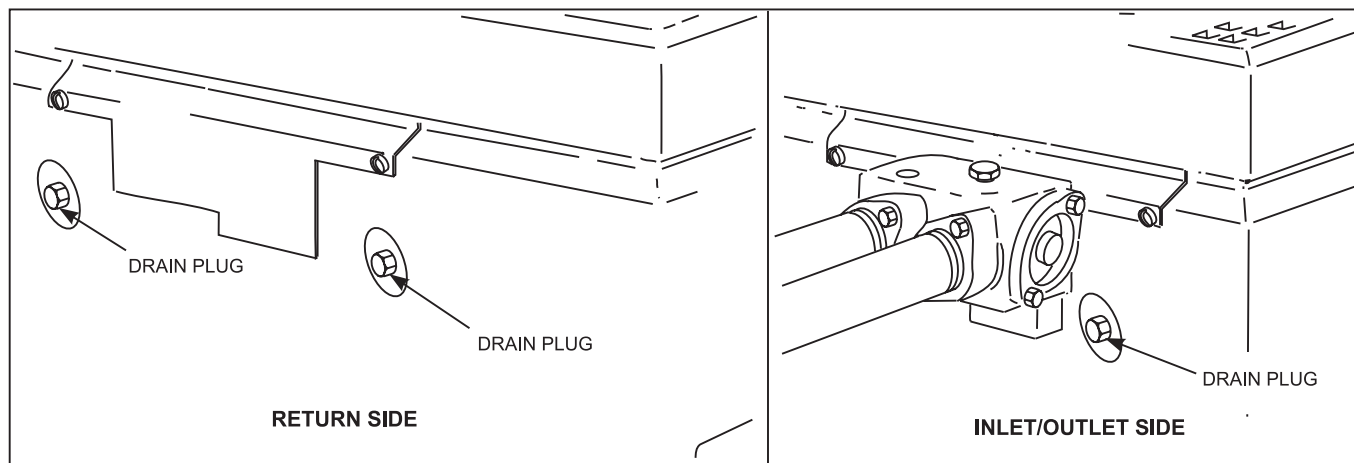

Figure 22. Heater drain locations
4. Remove the drain plug from the return header (see Figure 22), loosen the drain plug from the inlet/outlet header, and completely drain the heater before the first frost.